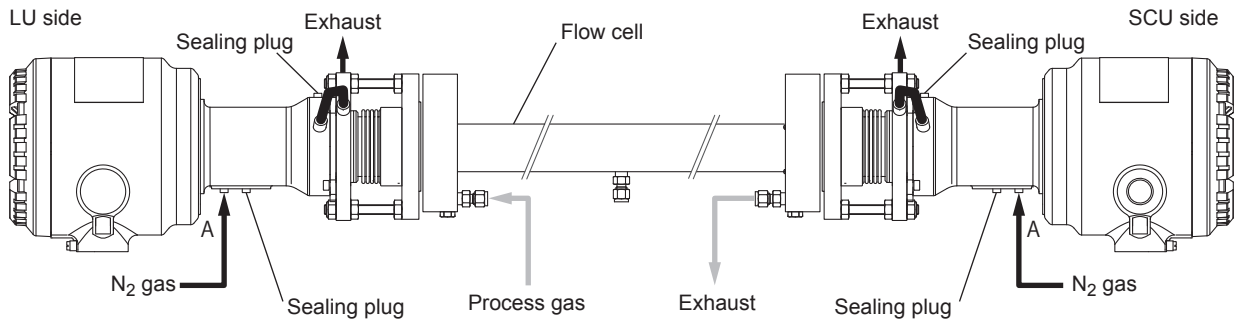

Figure 3.26 Piping when not using the validation function
If the application uses a flow cell and the validation function, connect the piping as shown in Figure 3.26.
The piping for analyzer internal purge is the same as “(4) When using a process isolation flange and the validation function.” Feed nitrogen gas through purge port A in Figure 3.26 for both the LU and SCU. For the SCU, since check gas needs to be fed during validation, connect the piping with a three-way valve so that the gas can be switched between nitrogen gas and check gas.